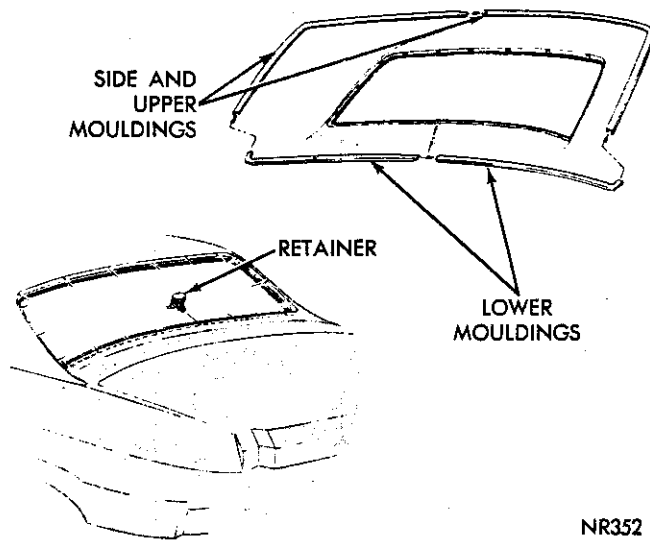
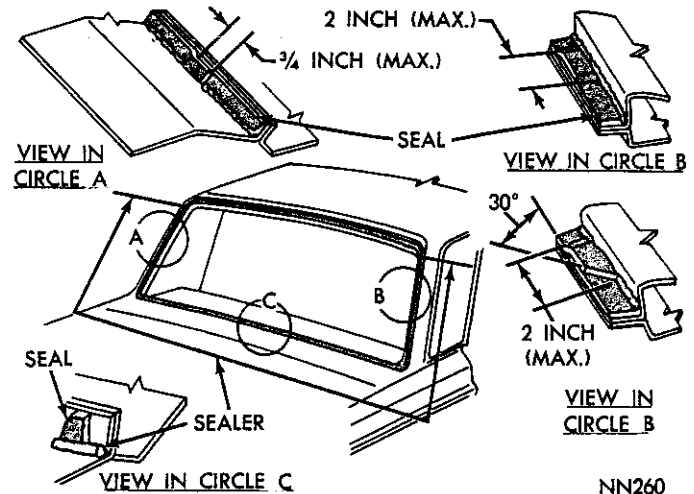
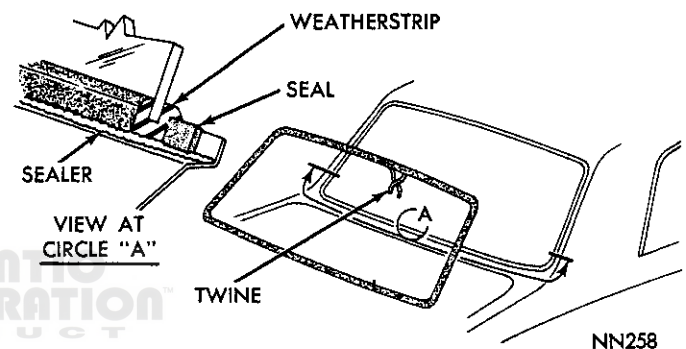

Fig. 16—Rear Window Moulding—Dart
Fig. 17—Rear Window Seals—Dart
Fig. 18—Rear Window Installation—Dart
(1) Place a protective covering over deck lid, quarter panel and rear window areas. Remove rear window mouldings (Fig. 16).
(2) Using a fibre wedge, loosen weatherstrip lips from inside car.
(3) With an assistant supporting glass on outside, from inside car, push against glass at one of the upper corners and remove glass and weatherstrip from fence.
(4) Place glass on a cloth covered bench and carefully remove weatherstrip.
(5) Inspect polyethylene seal (Fig. 17) and remove only if damaged.
(6) Remove all sealer from glass, weatherstrip and fence.
(1) Inspect rear window fence to be certain it is clean, smooth and straight.
(2) If polyethylene seal (Fig. 17) was removed, install new seals, starting at lower end. Overlap top seal, starting with a 3/4 inch overlap at left side. Seal should overlap lower seal at right side by 2 inches maximum. If greater than 2 inches, trim at a 30 degree angle (Fig. 17).
(3) Flow a continuous ribbon of cement on each lip and around entire length of weatherstrip glass groove.
(4) Install weatherstrip on glass.
(5) Install twine into fence groove of weatherstrip so ends of twine are at top center section of weatherstrip (Fig. 18).
(6) With an assistant, position window in opening and with the assistant supporting glass in position, enter car and pull twine slowly to seat weatherstrip on fence.